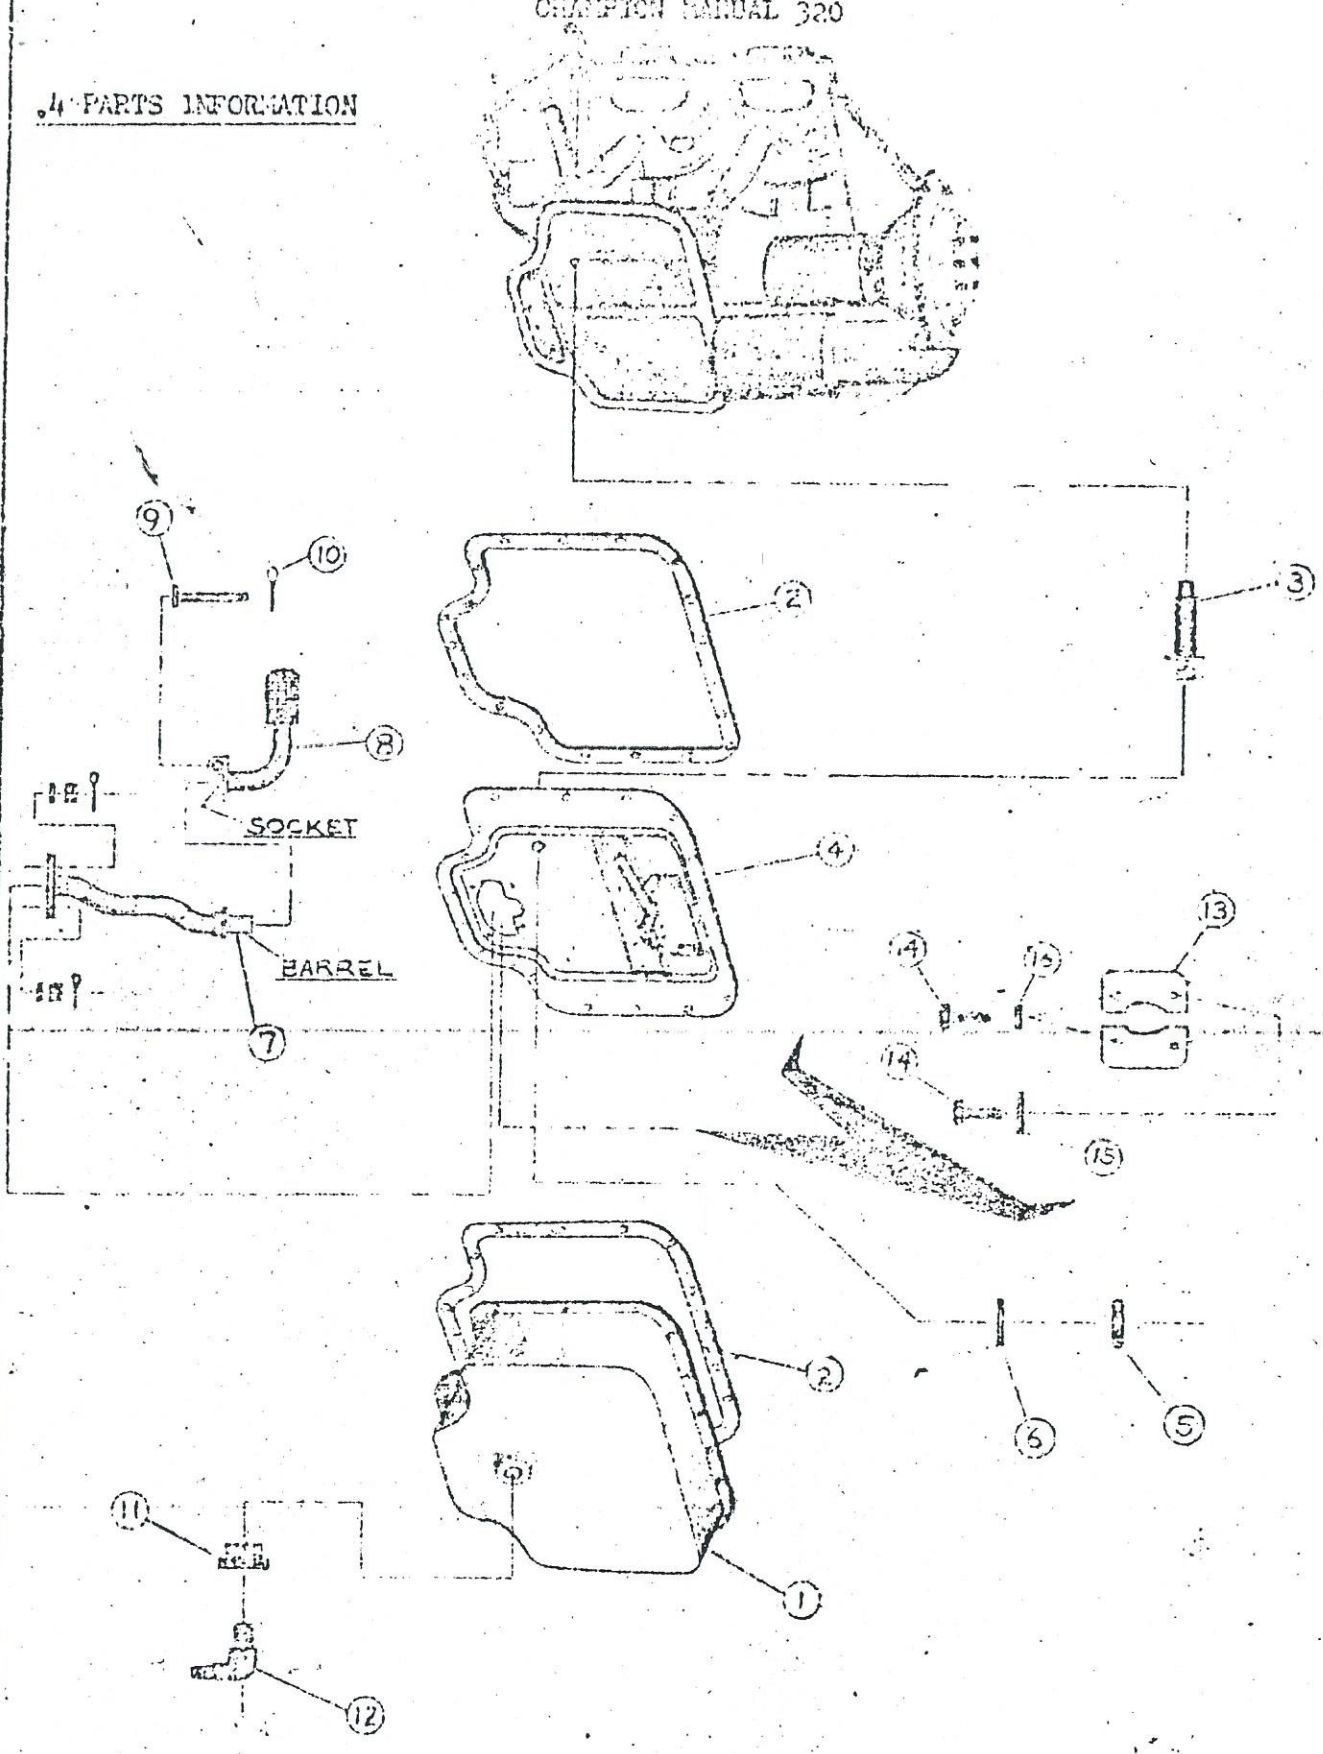

FIGURE 4-1
3. OVERHAUL PROCEDURE. It is recommended that the following procedure be accomplished at the times specified in Section .2 of this manual. Refer to Figure .4-1 for nomenclature and part numbers.